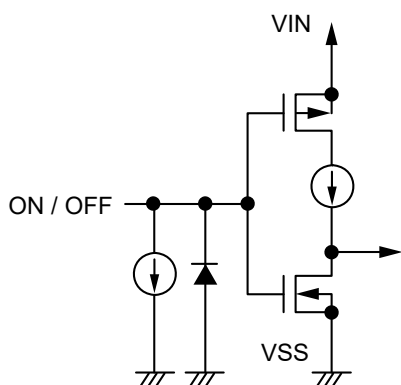
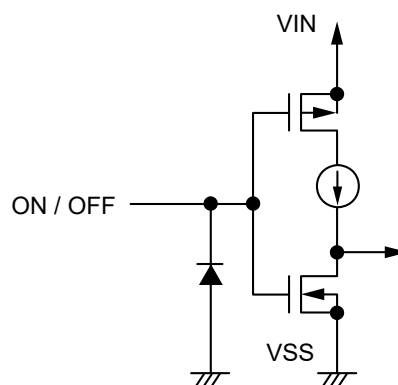

Figure 19 S-13R1 Series A / C type
Figure 20 S-13R1 Series B / D type
Note that the current consumption increases when a voltage of 0.3 V to 1.0 V is applied to the ON / OFF pin. The ON / OFF pin is configured as shown in **Figure 19** and **Figure 20**.
*1. Note that the IC's current consumption increases as much as current flows into the constant current of 0.1 μ A typ. when the ON / OFF pin is connected to the VIN pin and the S-13R1 Series A / C type is operating (refer to **Figure 19**).